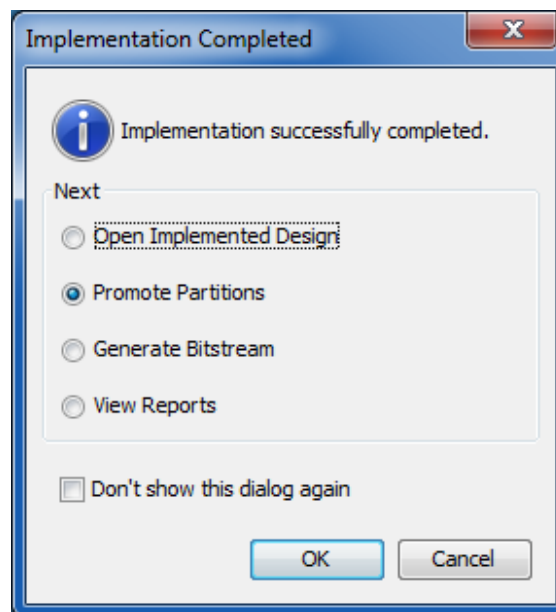

Figure 4-29: Implementation Completed Dialog Box
- Once a Configuration has been successfully implemented, it can be promoted to allow future implementations and Configurations to import the results. Use **Promote Partitions** in the dialog box, shown in Figure 4-29, page 71, to promote the Configuration.